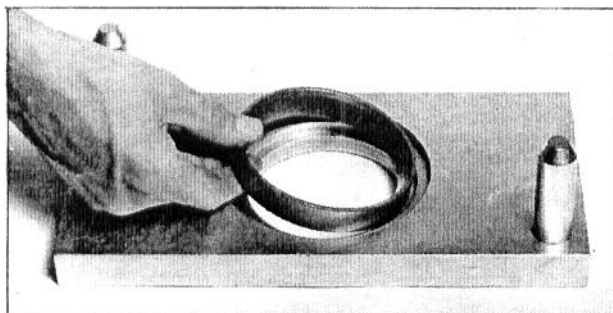

Fig. 105 - Bearing Cup Position in Special Tool MFN-267Y
2. Bolt the ring gear to the drive cover with four (4) equally spaced bolts and tighten to 50-55 ft.-lbs. torque.
4. Fit the planetary bearing cup into the small seat in the tool, slide the axle shaft thru the hole in the tool and seat the bearing cup in the bearing cone. Refer to Figs. 105 and 106.